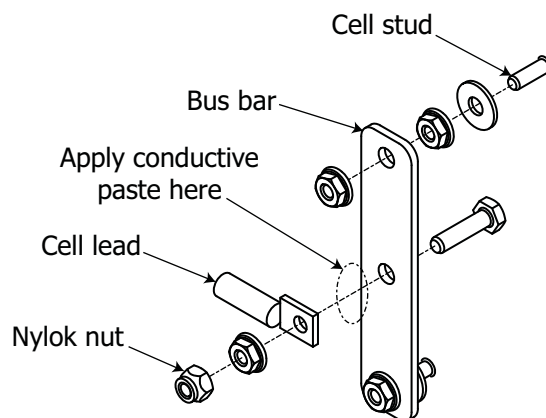

Figure 2. Cell Lead Connection
- c. Replace the 1" screws and Nylok nuts on the cell lead/bus bar connection if needed. Apply the conductive paste to that connection as shown in Figure 2.
- d. Reconnect the cell leads to the bus bars exactly as shown in Figure 2. The cell lead **must** be in direct contact with the conductive paste and the bus bar, with no nuts or washers in between.